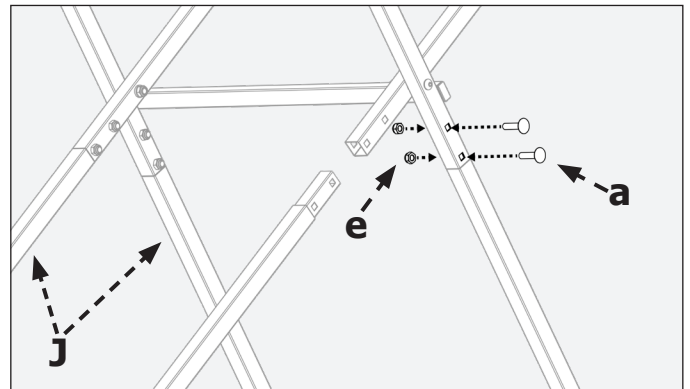

FIGURE 3
With assembled stand open, attach legs (J) to the stand using (eight) M8 x 35mm carriage bolts (a) and (eight) M8 lock nuts (e). Tighten lock nuts to secure legs to stand (FIGURE 3).